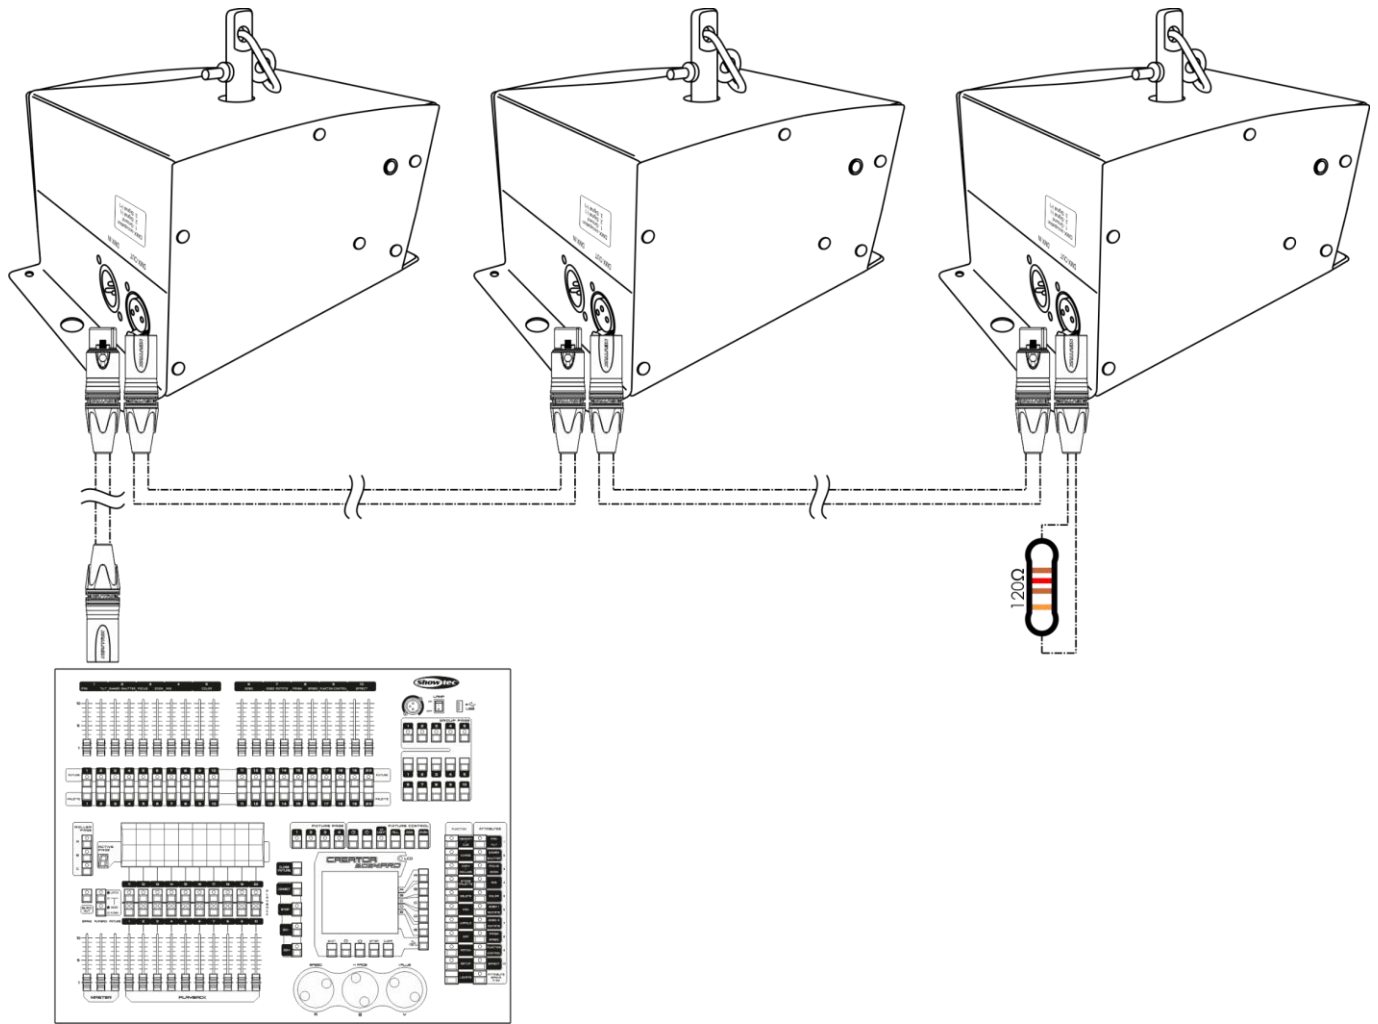

Fig. 04
- 04) Link the units as shown in Fig. 04. Connect a DMX signal cable from the first unit's DMX "out" socket to the second unit's "in" socket. Repeat this process to link the second, third, and fourth units.